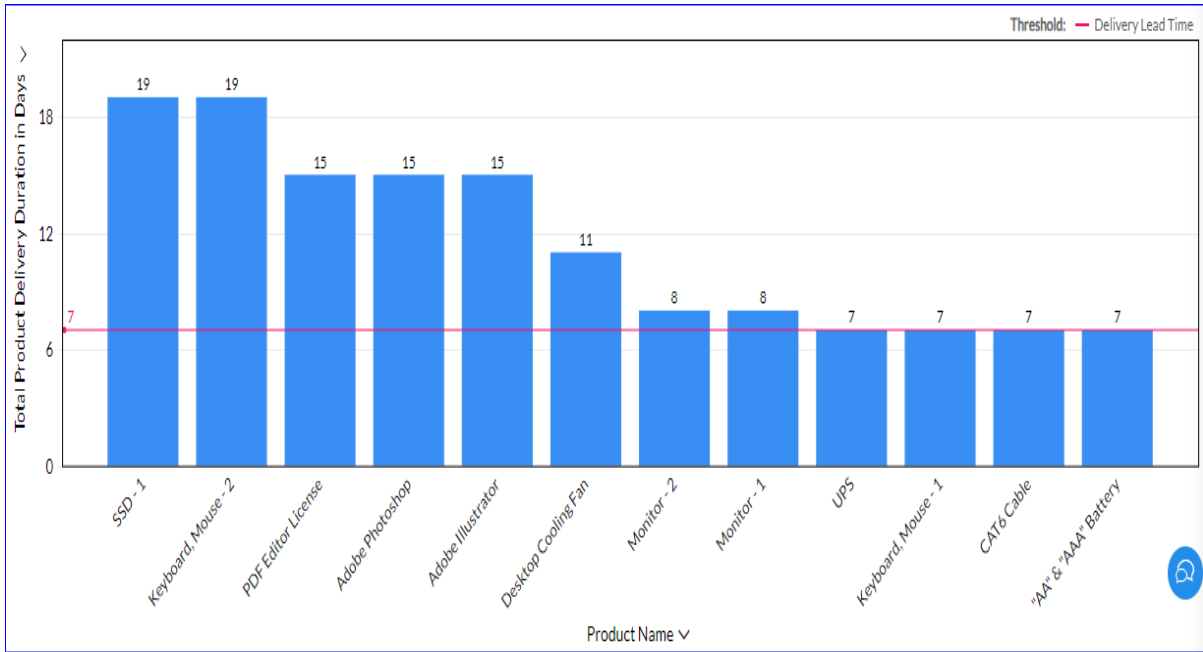
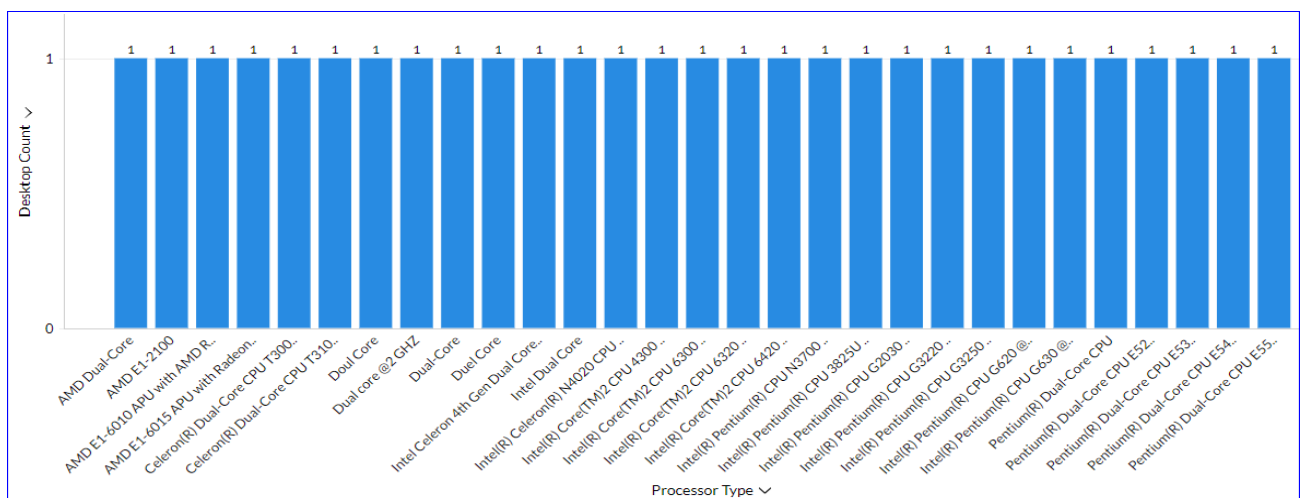

Figure 19: Graph of Total Duration (in Days) of product receiving after submitting to Procurement Department.
Figure 34: Existing CPU with Old Model Processors (in numbers) in TEAM Group.
Though garments manufacturing is the core business of TEAM Group, IT-Logistics plays a vital role in running and managing its daily operation. For day-to-day operations all sorts of IT equipment are required. The graph in Figure 19 shows the time span for receiving and delivering products to the concerned stakeholders. In November 2023, the IT department delivered Opex items to the concerned stakeholders like "AA & AAA" battery, CAT6 Cable,
Desktop Cooling Fan, Headphone, Keyboard & Mouse, Replacement monitors and Software Renewal License such as Adobe Illustrator, Photoshop and PDF Editor License, SSD, Telephone Set, UPS and Wireless Mouse. Generally, for IT purchases delivery lead time has been set for 7 Days (marked by the red color line in Figure 19) known as Threshold. Though delivery lead time is supposed to be the sum of “Pending Time & Delivery Time”, but here 7 Days has been set based on operations observation. From the graph, product delivery within 1 to 7 days makes sense as some products like Headphone, SSD, Keyboard, Mouse are found instantly and here procurement team follows their protocol for purchasing. But when the number of requirements for these items increases the procurement team waits and issues work order altogether to a vendor to deliver all the items. The same is the situation in case of software renewal issues.
In Figure 34, we can see that 32 CPU needs to be replaced with the brand-new CPU as all of them are of Pentium AMD, with Dual Core processors of different generations. Nowadays, these CPUs no longer work well in organizations due to vast usage of various types of applications, such as windows 10 updates, windows 11 environment, in house software, server upgradation, and poor resources. Even normal MS Word, MS Excel files works can't be done using these CPU. They have also been tested here to increase RAM (memory), HDD and SSD (storage) but failed just because of old generation processor. Hopefully if management approves, all of these will be replaced. Besides CPU, printers will also be replaced as repairing printers is too costly and also shortages of required vendors.
- Any IT report can be generated and analyzed via ManageEngine Analytics Tools. My all-report analysis figures are provided from there (Figure 19 to Figure 34).
- In most cases of this project period, it took more than 7 days to deliver required IT products. Receiving required IT services also delayed from vendor end which exceeds 7 days. In the entire report it has been highlighted via Figure 19, 20, 25, 26. Several barriers such as vendor sourcing, vendor payment, not getting fund from Finance & Accounts Department are pointed as root cause. Sometimes, vendors delay in providing quotation. After analyzing it has been found that "payment outstanding" is the root cause for it in most cases. Another reason is that vendor analyze market rate and calculate their profit keeping payment duration and outstanding condition in mind. So sometimes they delay in providing quotation. To solve these issues making procurement and services under 7 days period, the best way is to sign up for an SLA Agreement between TEAM Group and Servicing Party, where all are bound to abide by the clauses.